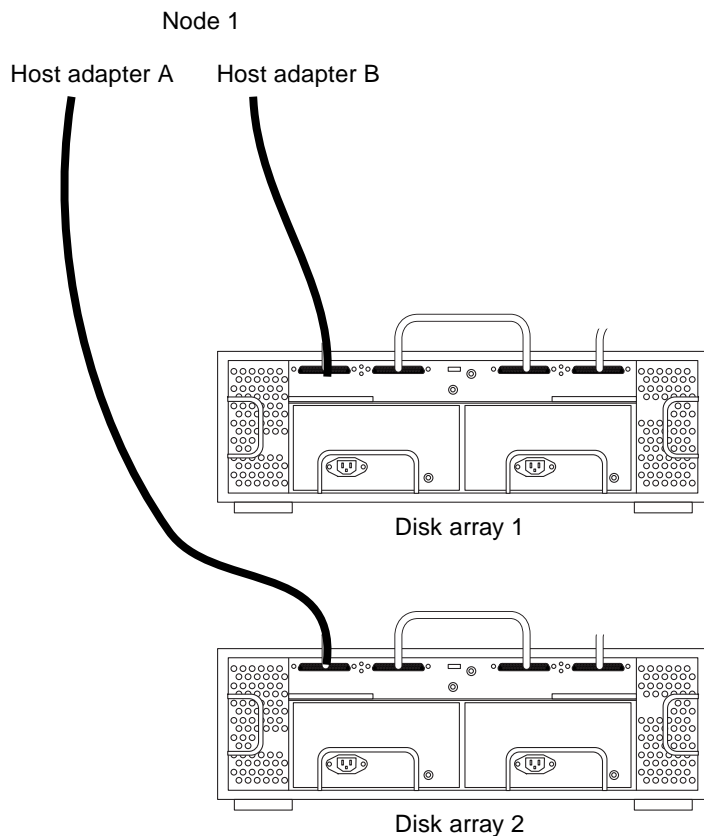

FIGURE 5-2 Example of a StorEdge D1000 Disk Array Mirrored Pair
4. Connect the differential SCSI cable between the node and the StorEdge D1000 disk array, as shown in FIGURE 5-2.